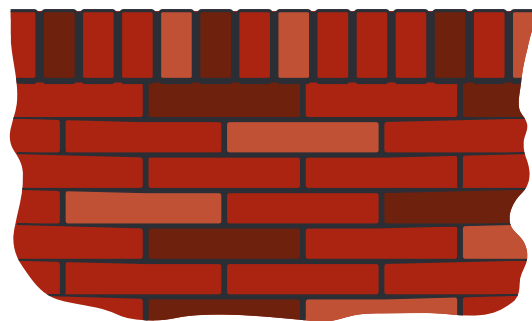

Figure 2
5. **Solid barriers**, which do not have openings, such as masonry or stone walls, should not contain indentations or protrusions that may allow a child to climb over the barrier (figure 2).